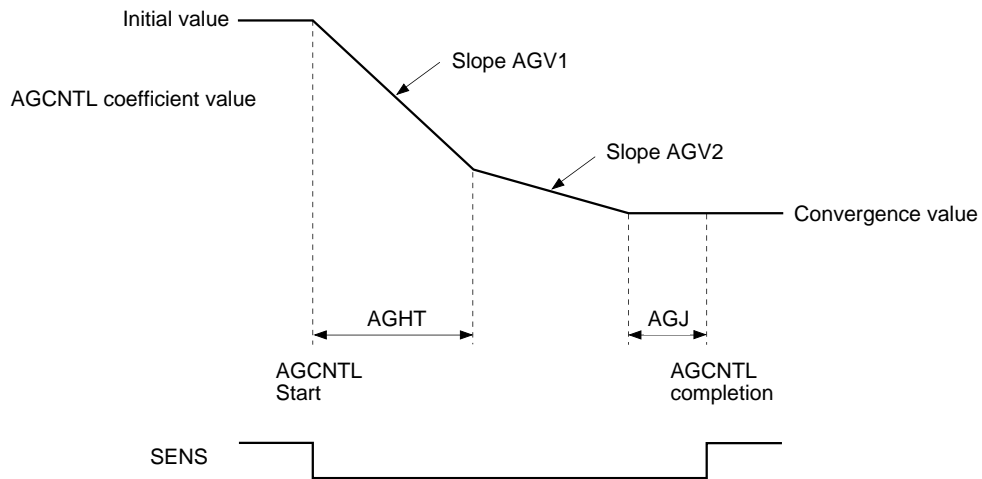

Fig. 4-5
An example of AGCNTL coefficient transitions during AGCNTL operation with various settings is shown in Fig. 4-5.
**Note)** Fig. 4-5 shows the case where the AGCNTL coefficient converges from the initial value to a smaller value.